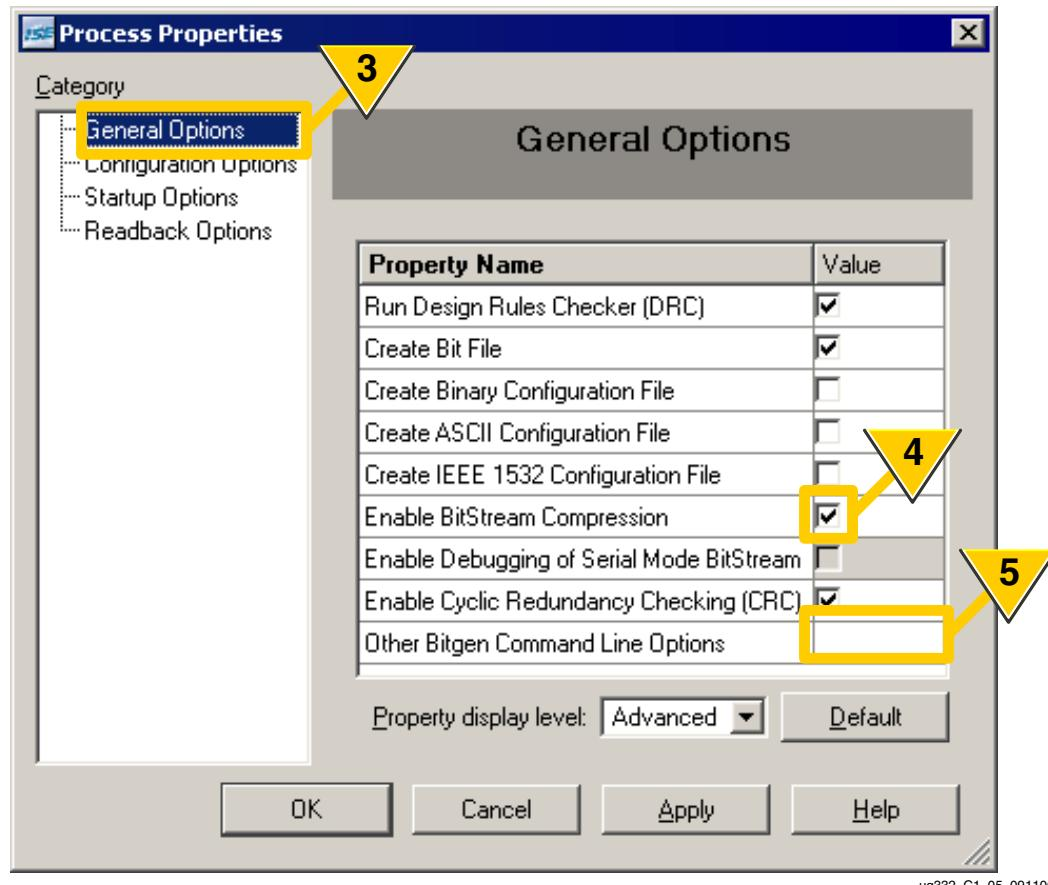

Figure 1-6: Bitstream Generator General Options
From Project Navigator, check the **Enable BitStream Compression** option, shown as Step 4 in Figure 1-6.
3. Click **General Options**, as shown in Figure 1-6.